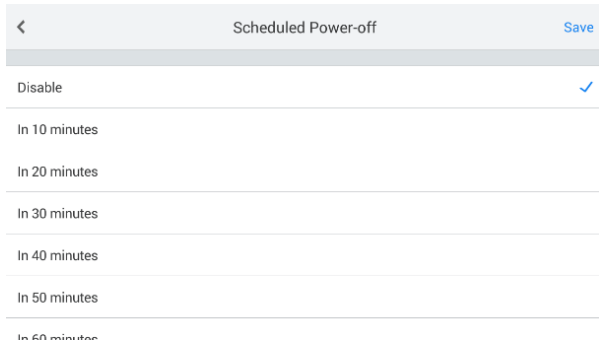

Figure 6-10 *Sample Scheduled Power-off Setting*
3. Select one of the 7 choices: Disable, In 10 minutes, In 20 minutes, In 30 minutes, In 40 minutes, In 50 minutes, In 60 minutes. A tick will display to the right of the selected time. Manual time setting is also available. You can tap **Set Time** and roll up and down in the setting screen then tap **OK** to confirm (Fig 6-10).